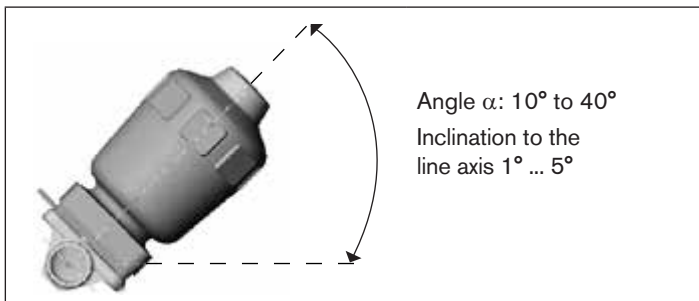

Fig. 12: Installation position for self-drainage of the body
- Install body inclined by angle  $\alpha = 10^\circ$  bis  $40^\circ$  to the horizontal (see “Fig. 12”).